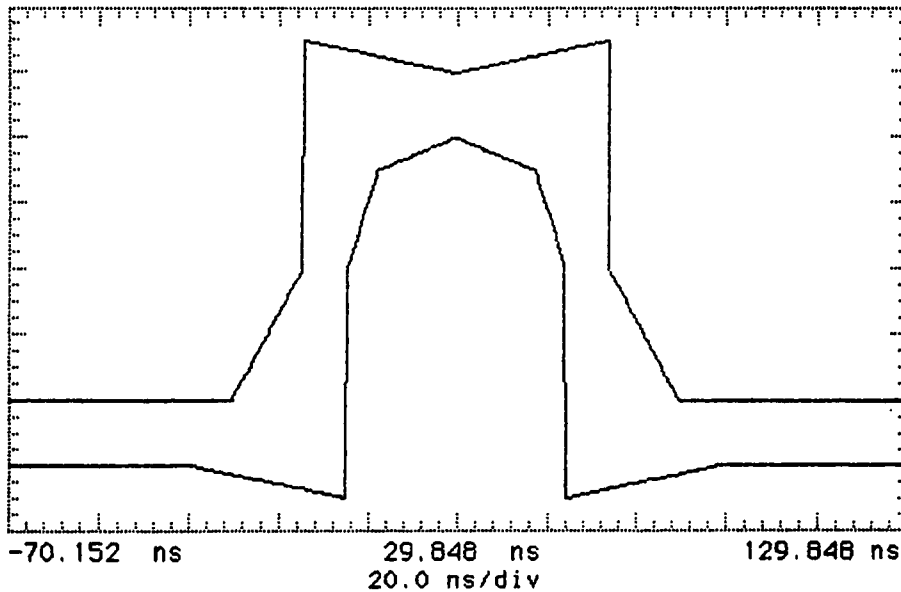

Figure 3-18. 8 Mb/s Pulse Mask
45. Press **SHIFT** **AUTOSCALE** on the oscilloscope to automatically align the pulse to the mask. Verify that the pulse falls within the mask as shown in Figure 3-18.
If your oscilloscope does not have the Mask feature, obtain a printout of the displayed pulse. Place the mask shown in Figure 3-18 over the pulse and ensure that the pulse falls within the mask (a transparent copy of the mask should be used).
49. Adjust the oscilloscope timebase, delay and vertical sensitivity controls to verify that the pulse meets the mask as shown in Figure 3-18. Use the displayed settings as a guide.